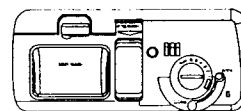

Fig. 21
4. Detergent/Rinse Aid Dispenser (Fig. 21)